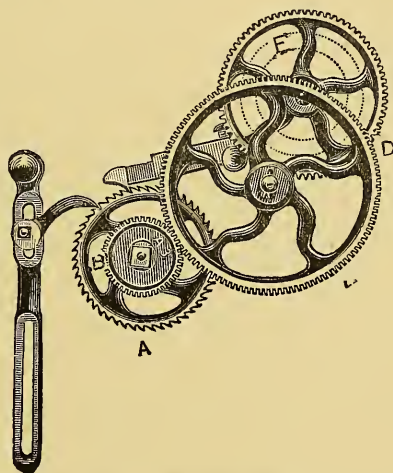

Fig. 57.—Taking-up Motion.
**Taking-up Motion.**—The object of a taking-up motion in any power loom is simply to take up the woven fabric. The illustration (Fig. 57) very plainly shows the train of wheels attached to the cloth beam. The vertical lever on the left, with catch, is known among weavers as the “monkey tail”; it actuates the wheel, A. The wheel, C, is a carrier, merely transmitting power to the cloth roller, D. This arrangement represents a constant number or dividend of the motion.